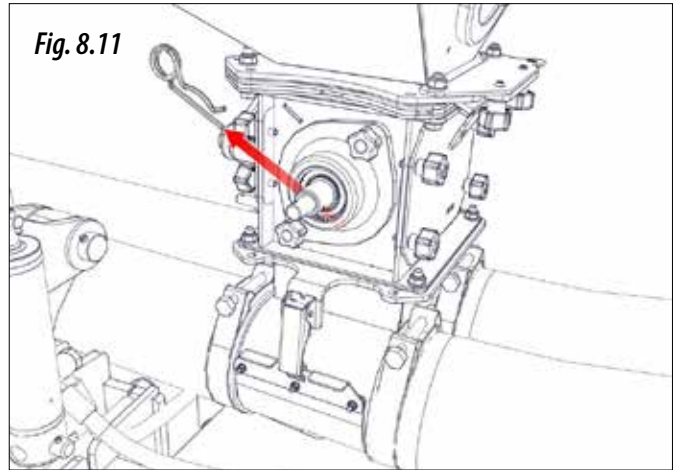

Fig. 8.11
- 1- Remove the R-clip (Fig. 8.11).